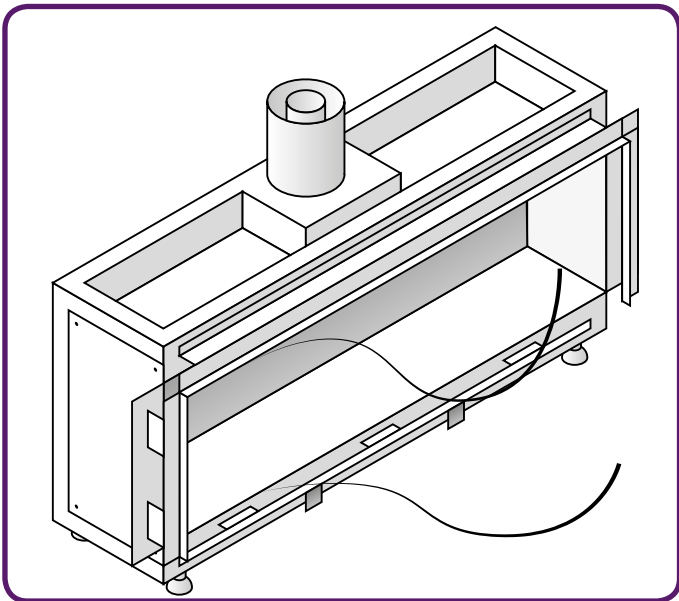

Figure 10.4 - Removing Glass Cords
- Remove the glass cords. (See *Figure 10.4*)